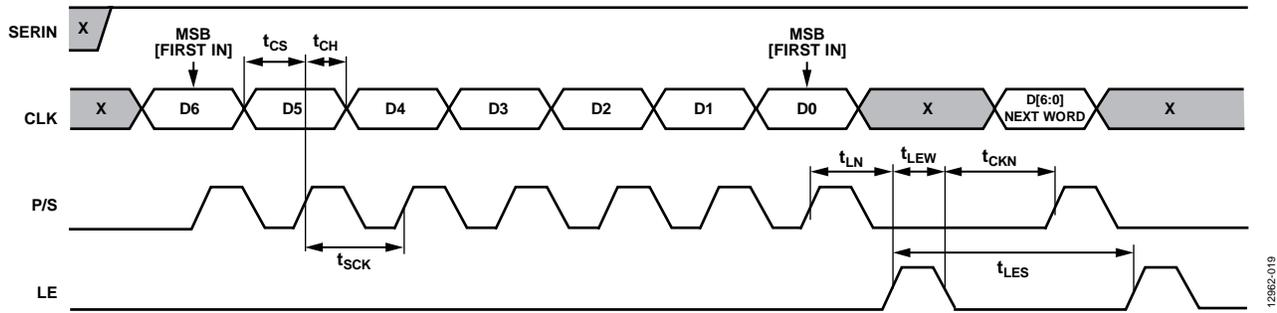

Figure 23. Serial Control Timing Diagram
The HMC1119 utilizes a 3-wire serial to parallel (SPI) configuration, as shown in the serial mode timing diagram (see Figure 23): serial data input (SERIN), clock (CLK), and latch enable (LE). The serial control interface activates when the P/S pin is set to high.